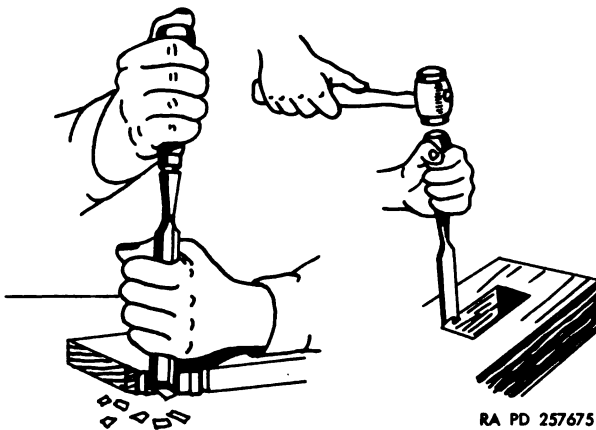

Figure 205. Vertical chiseling.
- (8) *Vertical chiseling.* Vertical chiseling (fig. 205) means cutting at right angles to the surface of the wood which is horizontal. Usually it involves cutting across the wood fiber, as in chiseling out the ends of a mortise or making a gain on stopped dado joints. When vertically chiseling across the grain, a mallet may be
used to drive the chisel. A mallet is necessary when chiseling hardwood. Use a shearing cut in cutting across the grain. Always cut with the grain whenever possible, so that the waste wood will easily split away from the guide marks. When chiseling on the ends of wood, remove as much waste wood as possible with a saw. Observe direction of grain and start to cut at an edge to avoid splitting the wood. Use a shearing cut and make the shavings thin. Thin shavings can be made without the use of a mallet. Grasp the handle of the chisel in one hand with the thumb pressing down on top of the handle, as shown in figure 205. Use the other hand to guide the tool, and to likewise supply some of the driving force if much pressure is required to do the job.